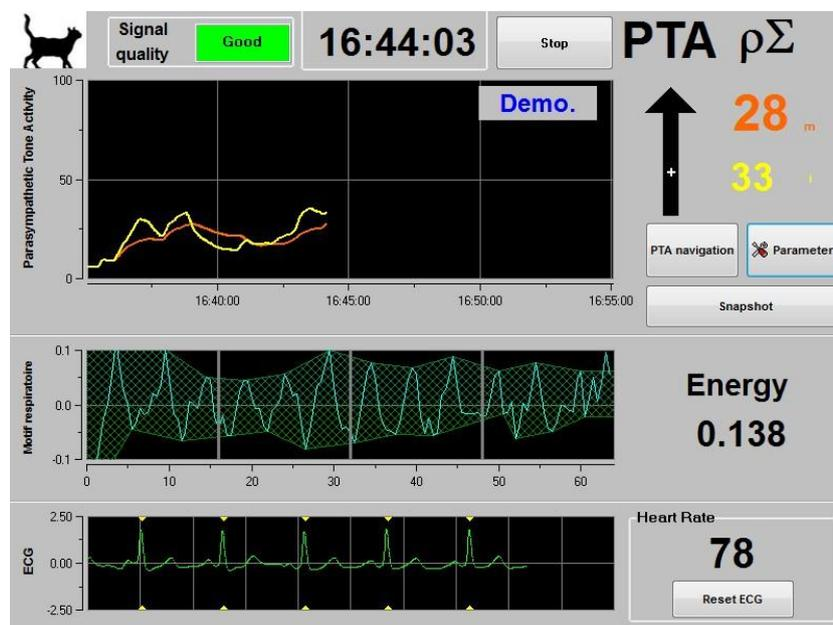

Figure 15
These rapid changes in  $p\Sigma$  tone express in the sinus node of the heart by changes in the time intervals between two R waves of the electrocardiogram. The normal next RR series (stemming from a cardiac cycle and not from an extrasystole) establish the RR series. After filtering, normalization and resampling, the  $p\Sigma$  compound of the RR series is obtained by measuring the generated surface by the respiratory cycles (figure 15). More important is the  $p\Sigma$  tone, bigger is the measured area.
- **“Expert” mode:** the respiratory pattern and the Energy index are displayed and two curves (an instantaneous one and an averaged one) substitute the composite curve (figure 15).